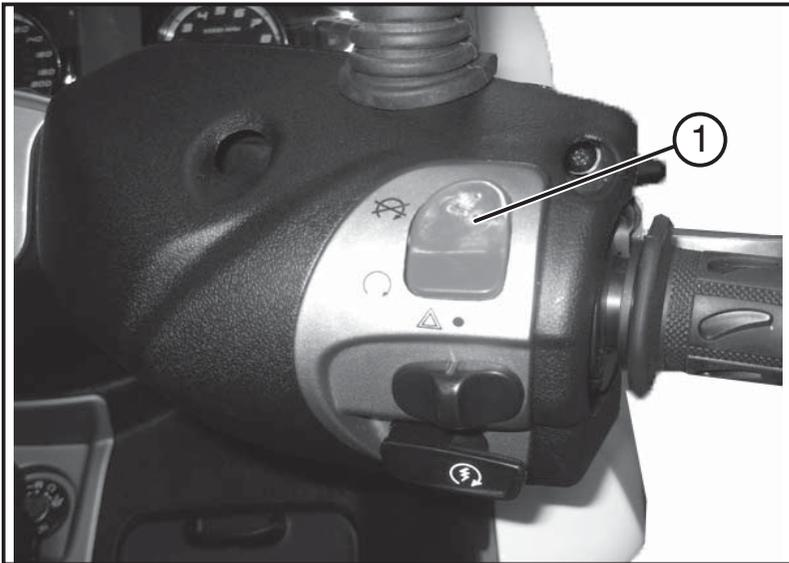

Fig. 01
5.5 STOPPING THE ENGINE (Fig. 01)
1- Press the stop engine command «**1 - Fig.01**», leaving the ignition key in position «**ON**».